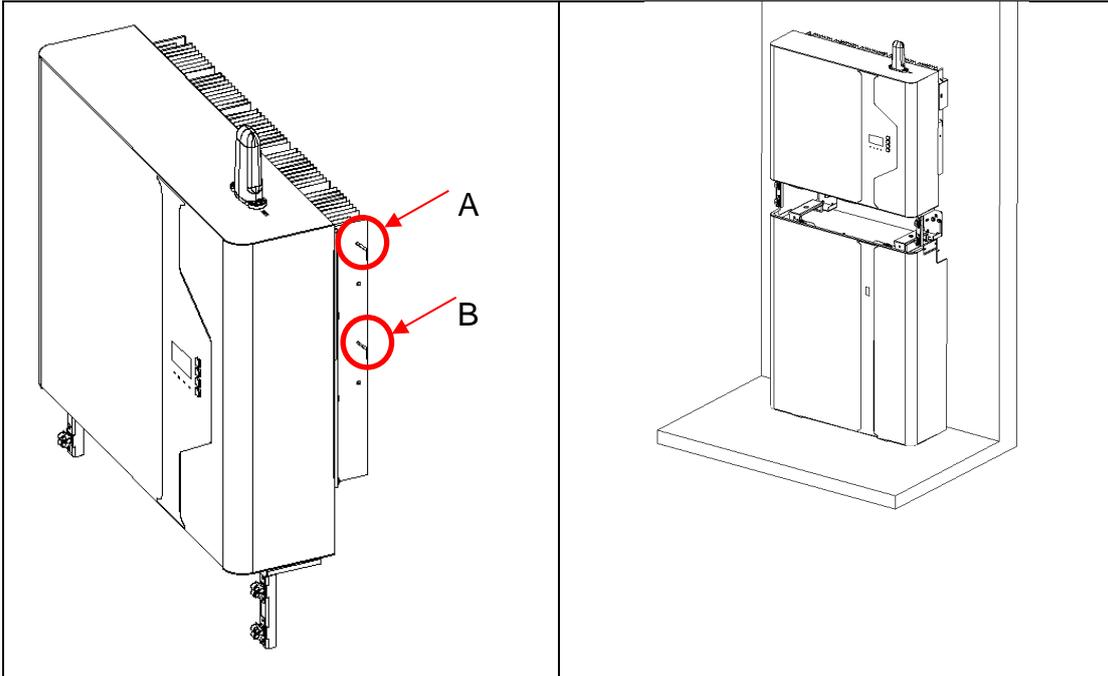

Figure 7.25 Install the inverter
Step 8: Hang the inverter on the wall bracket at slot A (Figure 7.25).